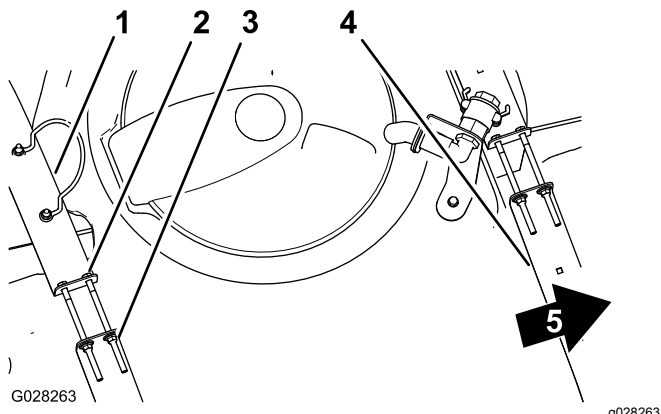

Figure 25
2. Check to see if there is any movement between the tank straps and the tank (Figure 25).
3. If the tank straps fit loose to the tank, tighten the flanged locknuts and bolts at the top of straps until the straps are flush with the surface of the tank (Figure 25).